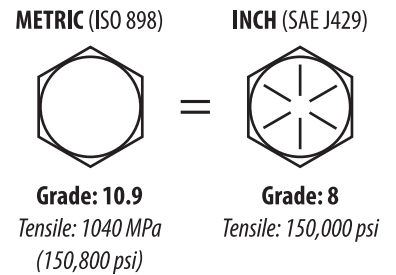

Figure 6
Use only Grade 8 (US) or 10.9 DIN (metric) in all applications. (Figure 6)